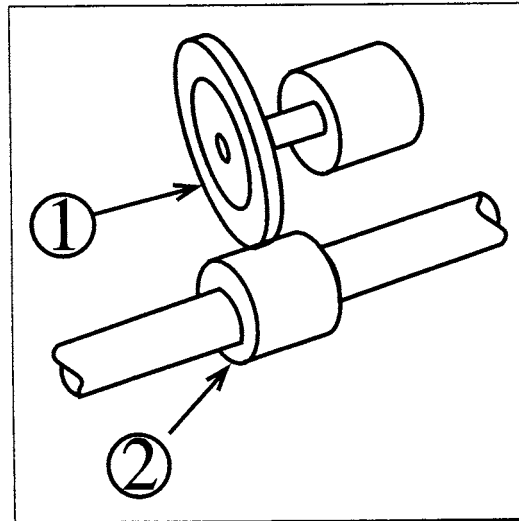

Figure 6
1. Install the encoder. The encoder drive wheel (1, Figure 6) must be spring-loaded against the drive web roller (2, Figure 6).